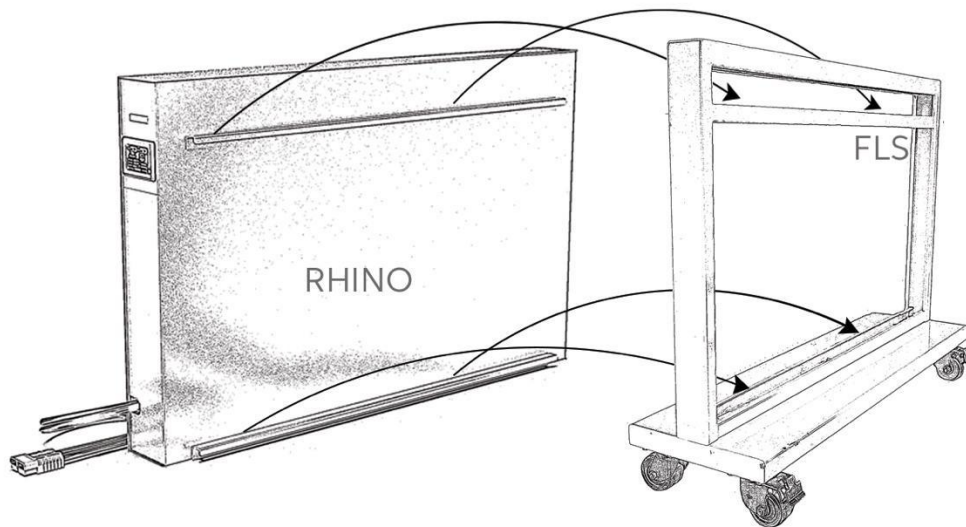

Fig. 7
1. Set first RHINO onto one side of floor stand. The RHINO should set cleanly into the cutout section of the white mounting bar on the inside the floor stand (FLS), as seen in Figure 7.